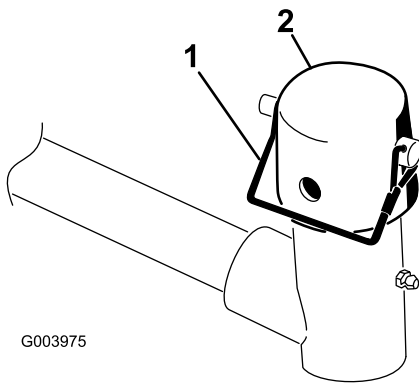

**Figure 5**
2. Unplugging the 48 VDC system battery-disconnect jumper (Figure 5).